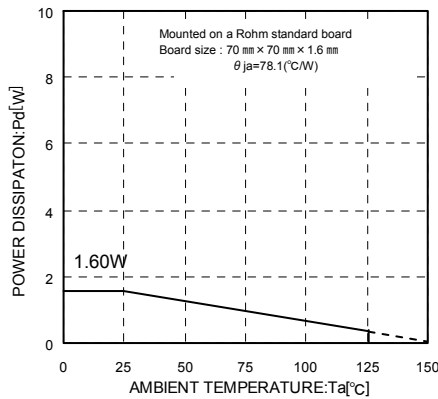
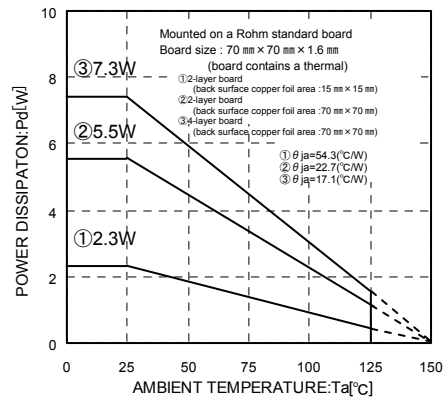

Fig. 14
Fig. 15
Refer to Fig. 14 and Fig. 15 thermal dissipation characteristics for usage above Ta=25°C. The IC's characteristics are affected heavily by the temperature, and if it exceeds its max junction temperature (Tjmax), the chip may degrade or destruct. Thermal design is critical in terms of avoiding Instantaneous destruction and reliability in long term usage. The IC needs to be operated below its max junction temperature (Tjmax) to avoid thermal destruction. Refer to Fig. 14 and Fig. 15 for HRP7 package thermal dissipation characteristics. Operate the IC within power dissipation (Pd) when using this IC. Power consumption Pc(W) calculation will be as below (for Fig. 15③)
$\left( \begin{array}{l} \text{Fig. 15③ : } \theta_{ja}=17.1^{\circ}\text{C/W} \rightarrow -58.4\text{mW}/^{\circ}\text{C} \\ 25^{\circ}\text{C}=7.3\text{W} \rightarrow 125^{\circ}\text{C}=1.46\text{W} \end{array} \right)$